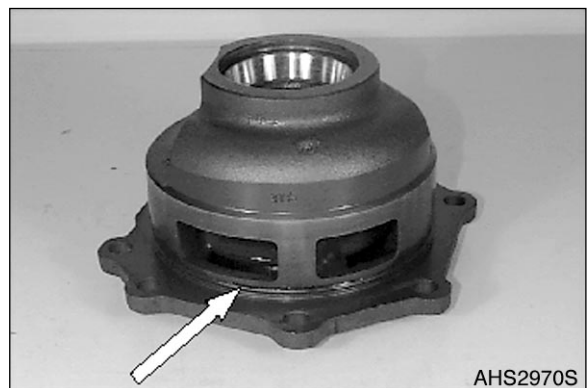

Figure 349
3. Install and grease O-ring (Figure 349).